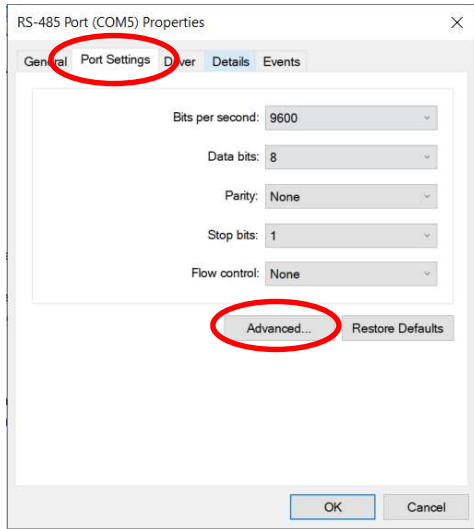
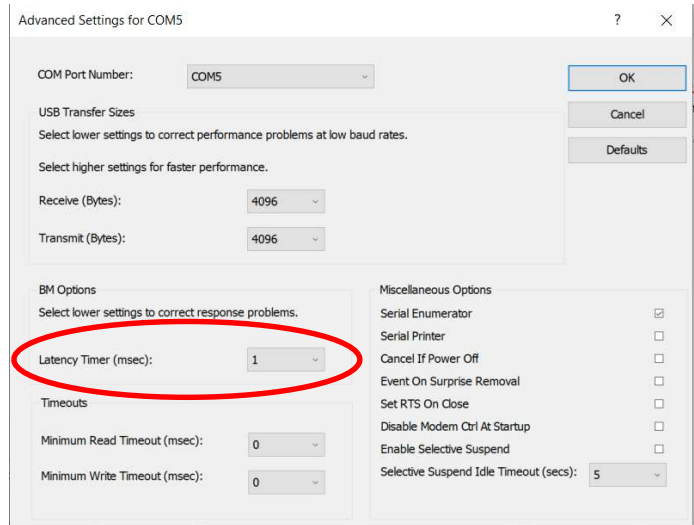

Figure 2
Figure 3
Steps 1–3 references Figure 1, Figure 2, and Figure 3.
2. Click on the “Port Settings” tab, and then *Advanced* button as shown in Figure 2.
3. Set the *Latency Timer (msec)* to a value of 1 as shown in Figure 3. A reboot of your laptop may be required after adjusting this setting.